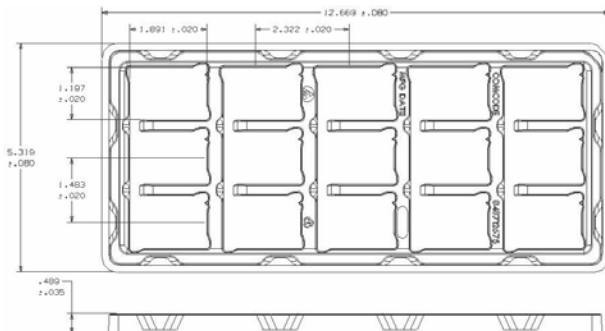

Figure 69. Surface Mount Packaging Tray
The surface mount versions of the HW005 family (suffix -S) are supplied as standard in the plastic tray shown in Figure 69. The tray has external dimensions of 135.1mm (W) x 321.8mm (L) x 12.4mm (H) or 5.319in (W) x 12.669in (L) x 0.489in (H). Surface mount versions of the HW005 family are also available as an option packaged in Tape and Reel. For further information on this please contact your local Lineage Power Technical Sales Representative.